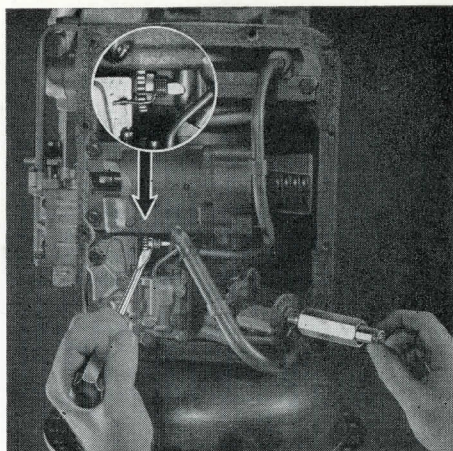
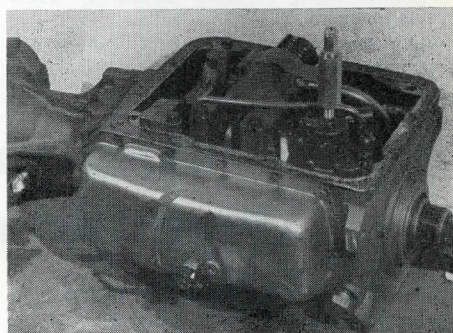

Figure 5
Figure 6
7. Using band adjusting tool (ATC-50A or AT-50) tighten band adjusting screw clockwise with "T" handle until knurled cap of gauge is just free to turn. On 1954-56 Oldsmobiles and 1955-56 Pontiacs, except Jetaways, this step should be done as follows: Remove the lock nut spring from its seating on the front band anchor lock nut (see Fig. 5). Turn front band anchor lock nut until knurled cap on gauge is just free to turn. Install anchor lock nut spring. The automatic transmissions used on 1954-56 Oldsmobile and 1955-56 Pontiac (except Jetaway) can be easily recognized by the pitch or angle of the servo body. Figures 1 through 5 illustrate these later transmissions. Figure 6 shows the older type transmission with the servo body (and the gauge in it) straight up and down.
move gauge from servo body. Re-install pipe plug in servo. Fig. 6.